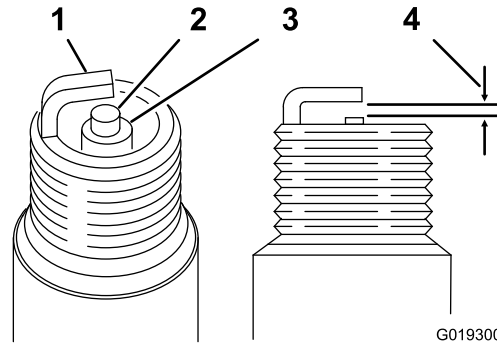

Figure 44
- For each spark plug, set the gap between the center electrode and the side electrode to 0.76 mm (0.030 inch); refer to Figure 44. Install each of the correctly gapped spark plugs with a gasket seal, and tighten the plugs to 22 N·m (16 ft·lb).